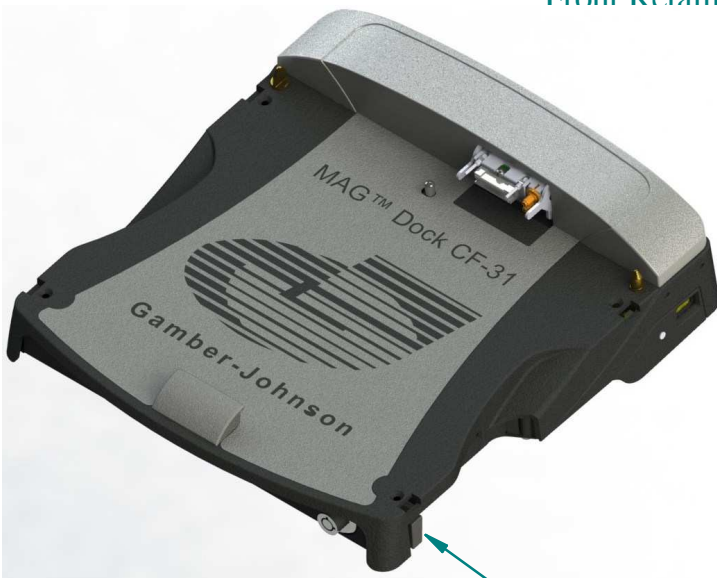

Figure 10
4. Pull the docking handle towards the left side of the dock until the latch catches (Figure 10). (The Push Button latch can be locked for added security)